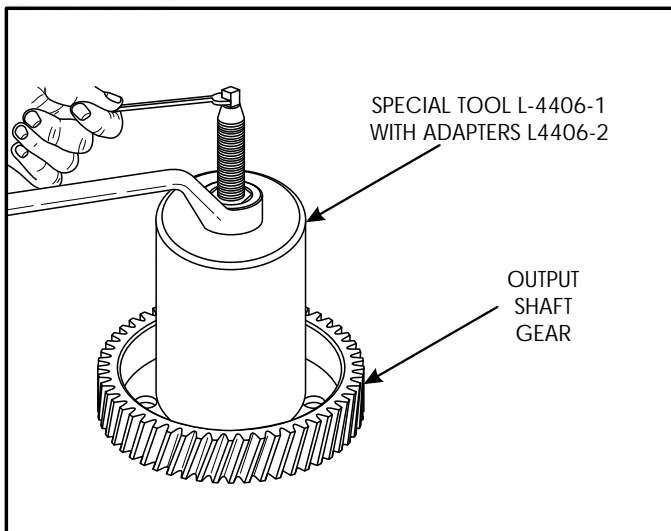

Figure 164
1. Remove output gear bearing cone using special tool and adapters, as shown in Figure 164.